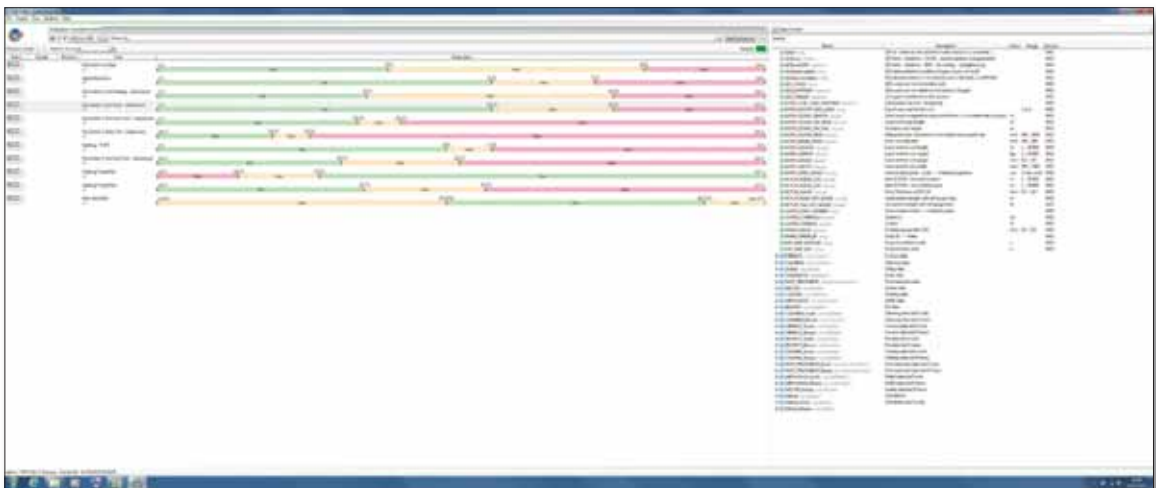

Fig 6 Typical process evaluation screen
- Translation of characteristics of a final product into process and product parameters, as well as process steps and tolerances (see Figure 6).